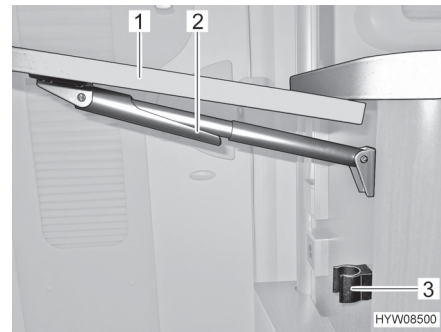

Fig. 85 Folding away the folding worktop
- Hold the folding worktop (Fig. 85,1) at the edges and lift gently. With your other hand, swing down the fixture (Fig. 85,2) on the telescopic holder.
- Fold down the table top until the telescopic holder clicks into position in the holder (Fig. 85,3).